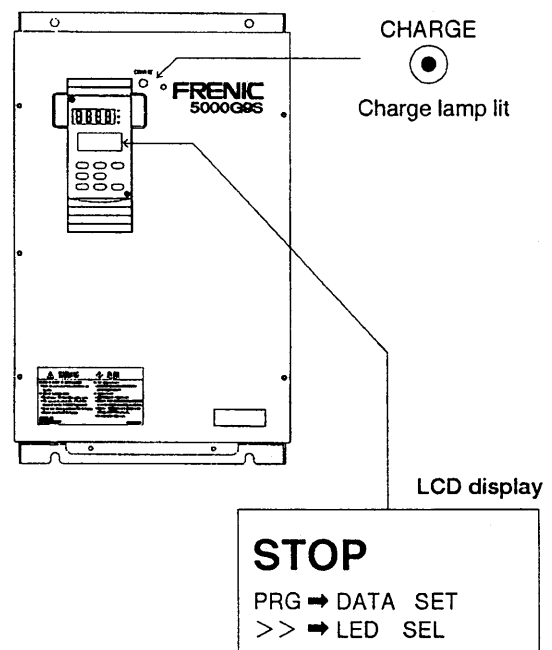

Fig. 7-1 Display when AC power is supplied
- Verify that the LCD display of the keypad panel displays STOP indication on the operation mode screen as shown in Fig. 7-1 (not alarm mode screen).